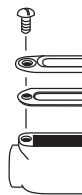

Figure 3
- The green colored ground lead should be connected to ground lead from wiring box, or if such lead is not provided, then the ground lead should be grounded to the conduit box to insure ground continuity. **Note:** If heaters are to be suspended more than 12" below ceiling, the heater support tubes should terminate into a Crouse-Hinds Type C Condulet in line wiring box where splice to power leads can be made (See Figure 3). A 3/8" pipe or conduit extension of the desired length from top of Condulet can then terminate at the ceiling wiring box utilizing cover plate, brackets, and lock nuts as with conventional installation.